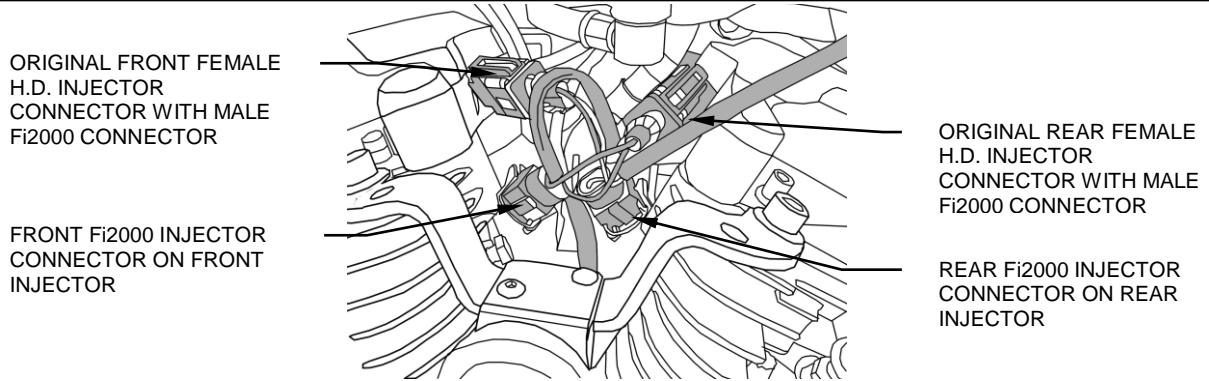

FIGURE 2
4. Feed the Fi2000 wire harness up along the left side of the frame, resting in the plastic main harness guide so the connectors end up in the injector area. The fuel injectors can rotate on their base, rotate them towards the left side, (towards the horn), as far as they will go to allow Fi2000 connector to fit on injector. Do not force them any further then they will rotate. Mate the Fi2000 female connectors onto the fuel injection connectors, (they look a little different then the stock female Harley connectors.) Plug the male Fi2000 connectors into the original female Harley connectors, make sure to keep the correct orientation for the front and rear injectors and connector harnesses, see Figure 2.